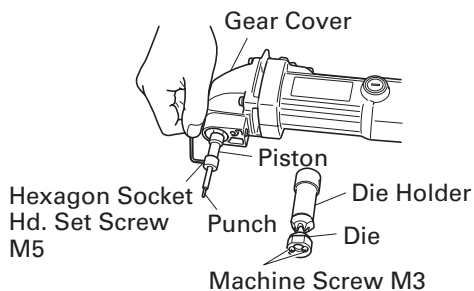

Fig. 8
Inspect for looseness of the M8 hexagon socket set screw used for mounting the die holder, the M3 machine screws used for mounting the die (see Fig. 4) and the M5 hexagon socket set screws used for mounting the punch (see Fig. 8). Caution should be exercised because, if any of these screws are loose, not only does cutting performance deteriorate but the machine can also be damaged.
2. Punch and die replacement (see Fig. 8)